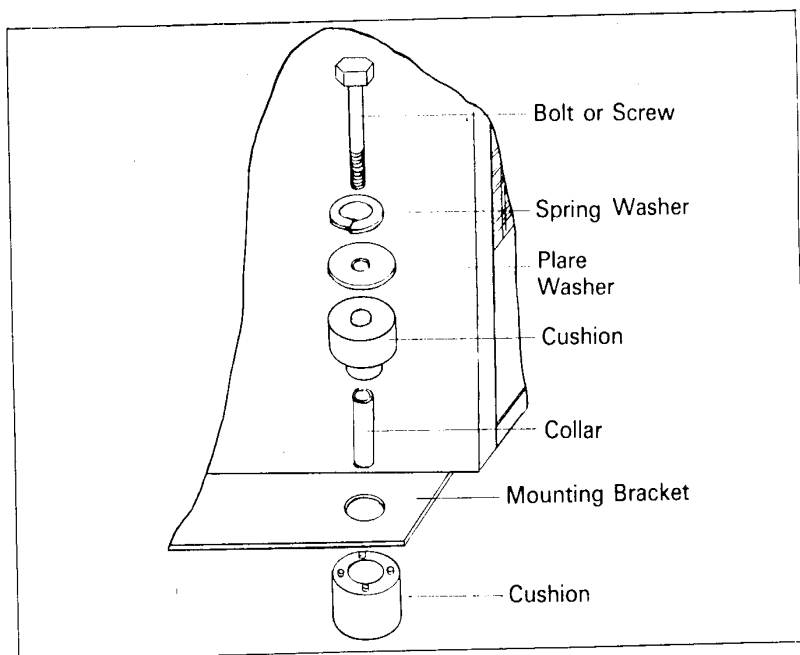

Fig.6
2. The compressor/condenser case can be easily mounted to the floor mounting brackets and by use of supplied screws or bolts, cushions, collars, plane washers and spring lock washers. (Fig. 6) Place unit to insure accessibility and good circulation (see paragraph on location).
With the power supplies off, make the electrical connections, referring to (Fig. 6). Refer to **WIRE SIZE** table for recommended D.C. wire sizes.